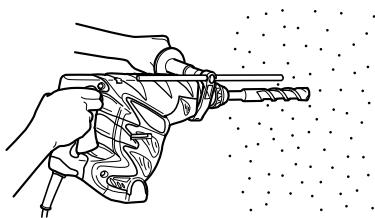

Fig. 5
- (1) Mount the drill bit.
- (2) Pull the trigger switch after applying the drill bit tip to the drilling position (Fig. 5)
- (3) Pushing the rotary hammer forcibly is not necessary at all. Pushing slightly so that drill dust comes out gradually is just sufficient.
- When the drill bit touches an iron reinforcing rod, the bit will stop immediately and the rotary hammer will react to revolve. Therefore please grip the side handle and handle tightly as shown in Fig. 5.